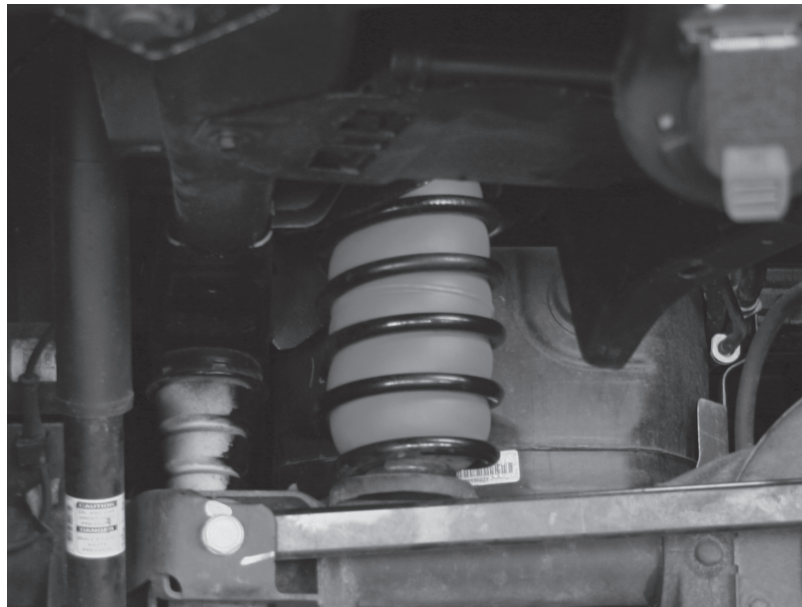

Fig. 3
4. Even though it may be perceived that the air spring cylinders work by pushing up and down on the upper and lower spring seats (they also do this), the “lifting or supporting” of the vehicle actually comes from the air spring cylinders, being inflated, slightly bulging in between the coil springs and “pushing or spreading” them thus helping support the vehicle’s sprung weight (Fig. 3). With this in mind, it is not necessary to fit the inside diameter of the steel spring exactly, and it is recommended that the air spring cylinder be a little undersized. Do not put an air spring cylinder with a larger outside diameter in a smaller ID coil spring. This will likely cause the early failure of the air spring cylinder.